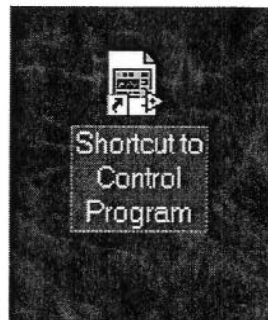

Figure 4 (Shortcut to Control icon)
- 7.6. Using the joypad shown below, bring the sensor head to the middle of the first wire. With the oscilloscope connected, adjust the height of the sensor head from the wire, using the 5/16 tool bit (small metal bar). Lay the tool bit lengthwise on the panel, and move the bottom edge of the sensor (figure 4) to the same level as the top of the bit. You should see the signal on the scope become stronger as height is adjusted.